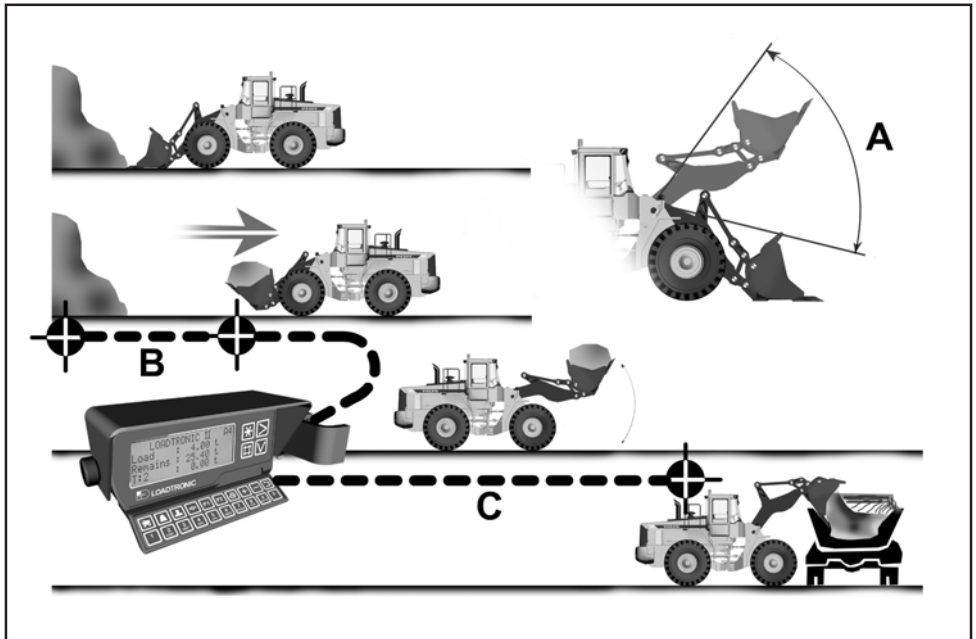

Figure 3.3: Automatic weighing sequence
- >> The lifting arms must be lifted sufficiently high, ref. Figure 3.3.